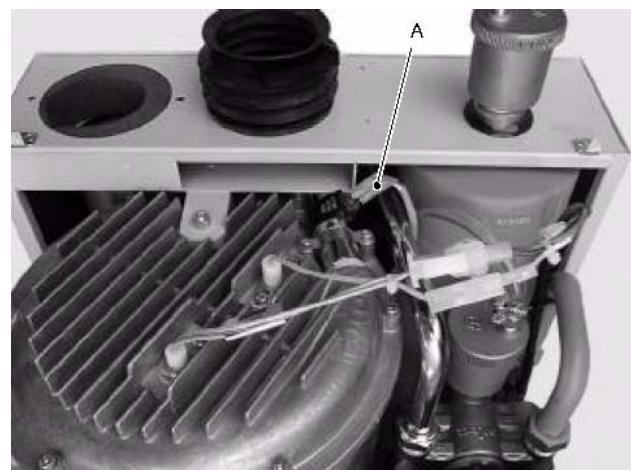

Fig. 17
- 2 Disconnect the connectors A (Fig. 17).